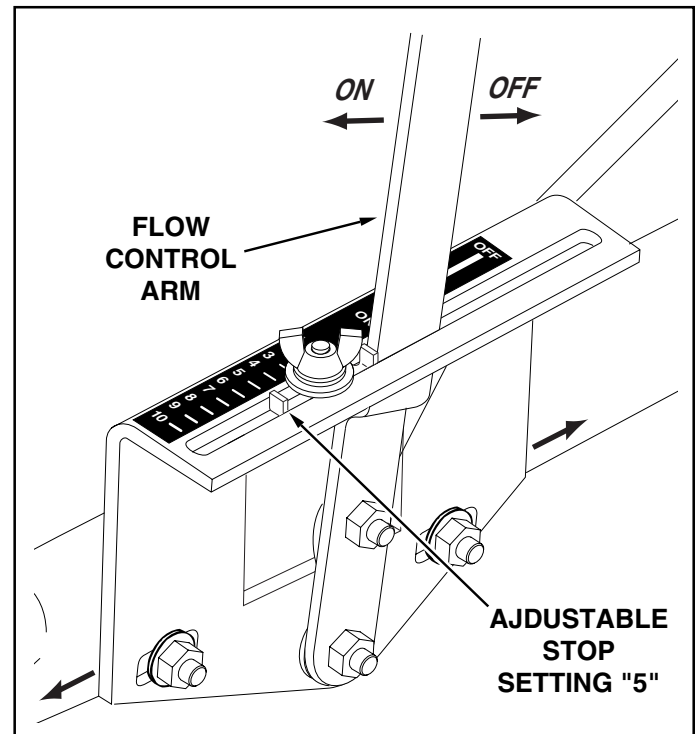

FIGURE 12
23. Position the flow control mounting bracket (Refer to figure 12).
(Refer to figure 12 on page 7.)